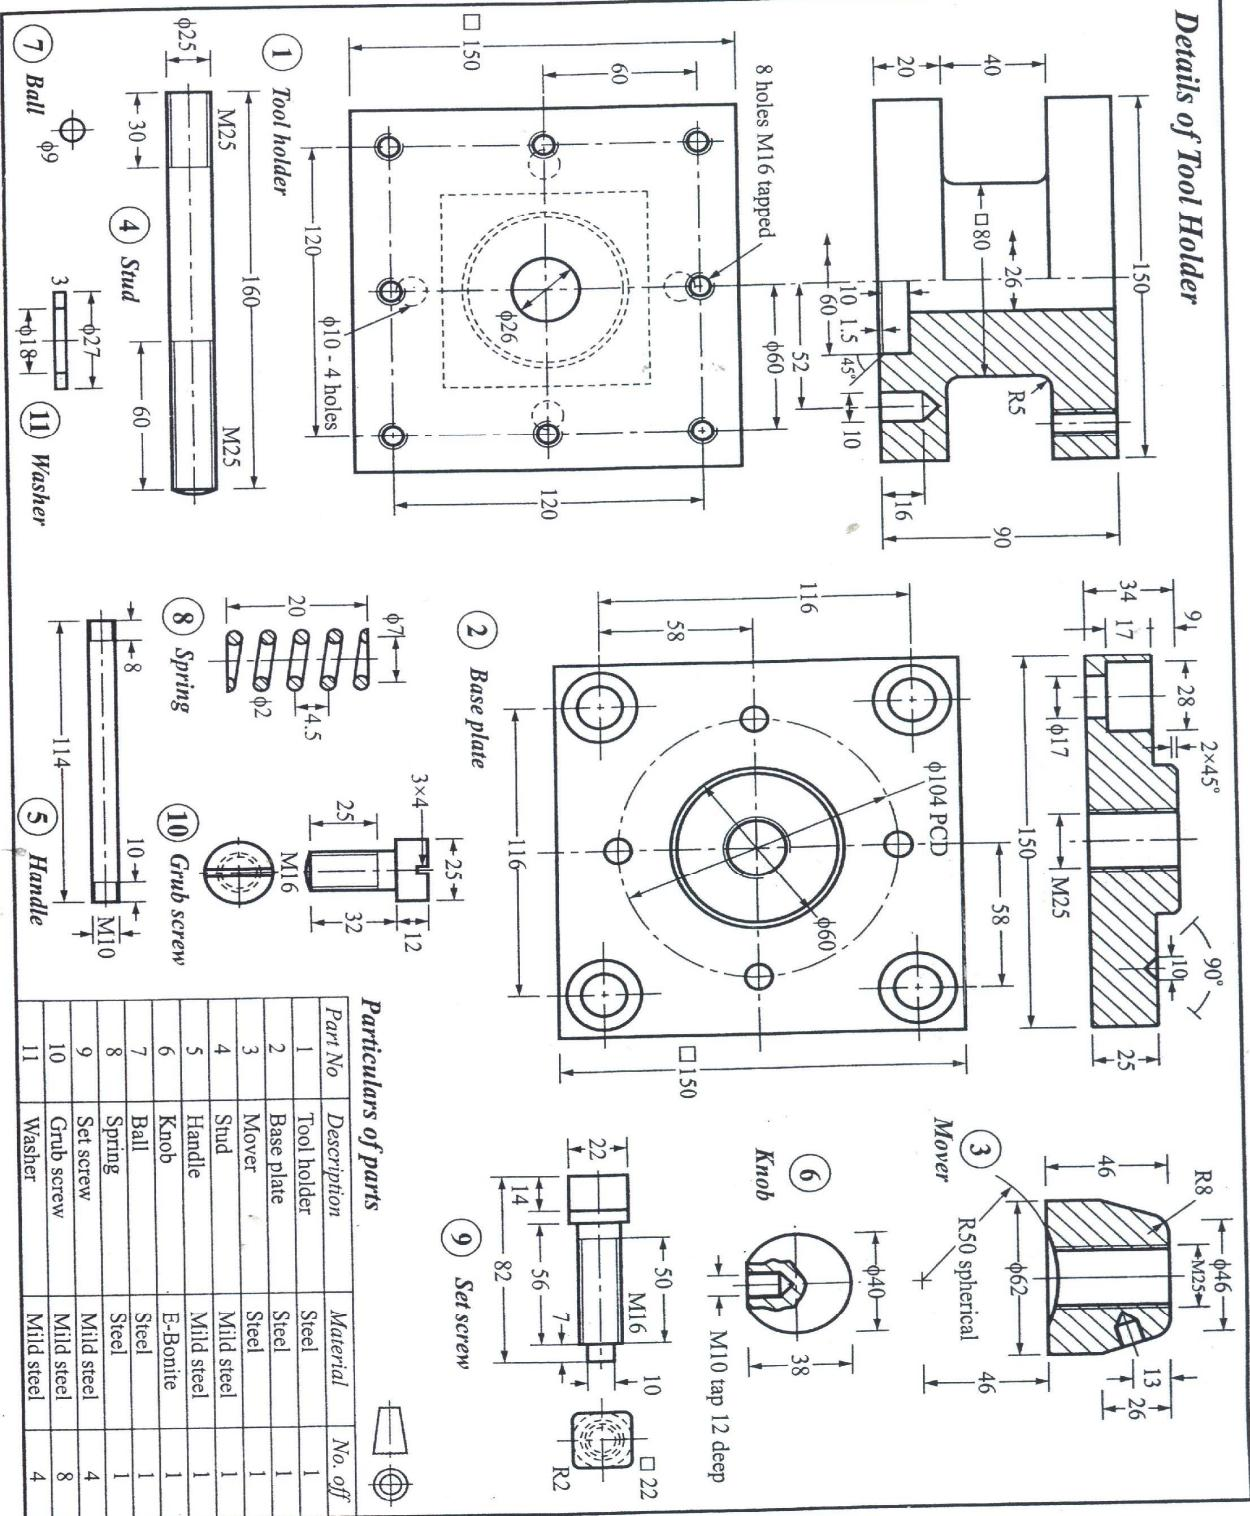

Figure 2 'SQUARE HEADED TOOLPOST'
6. Figure 2 shows the details of ‘SQUARE HEADED TOOLPOST’. Assemble the parts and draw the following views of the assembly.